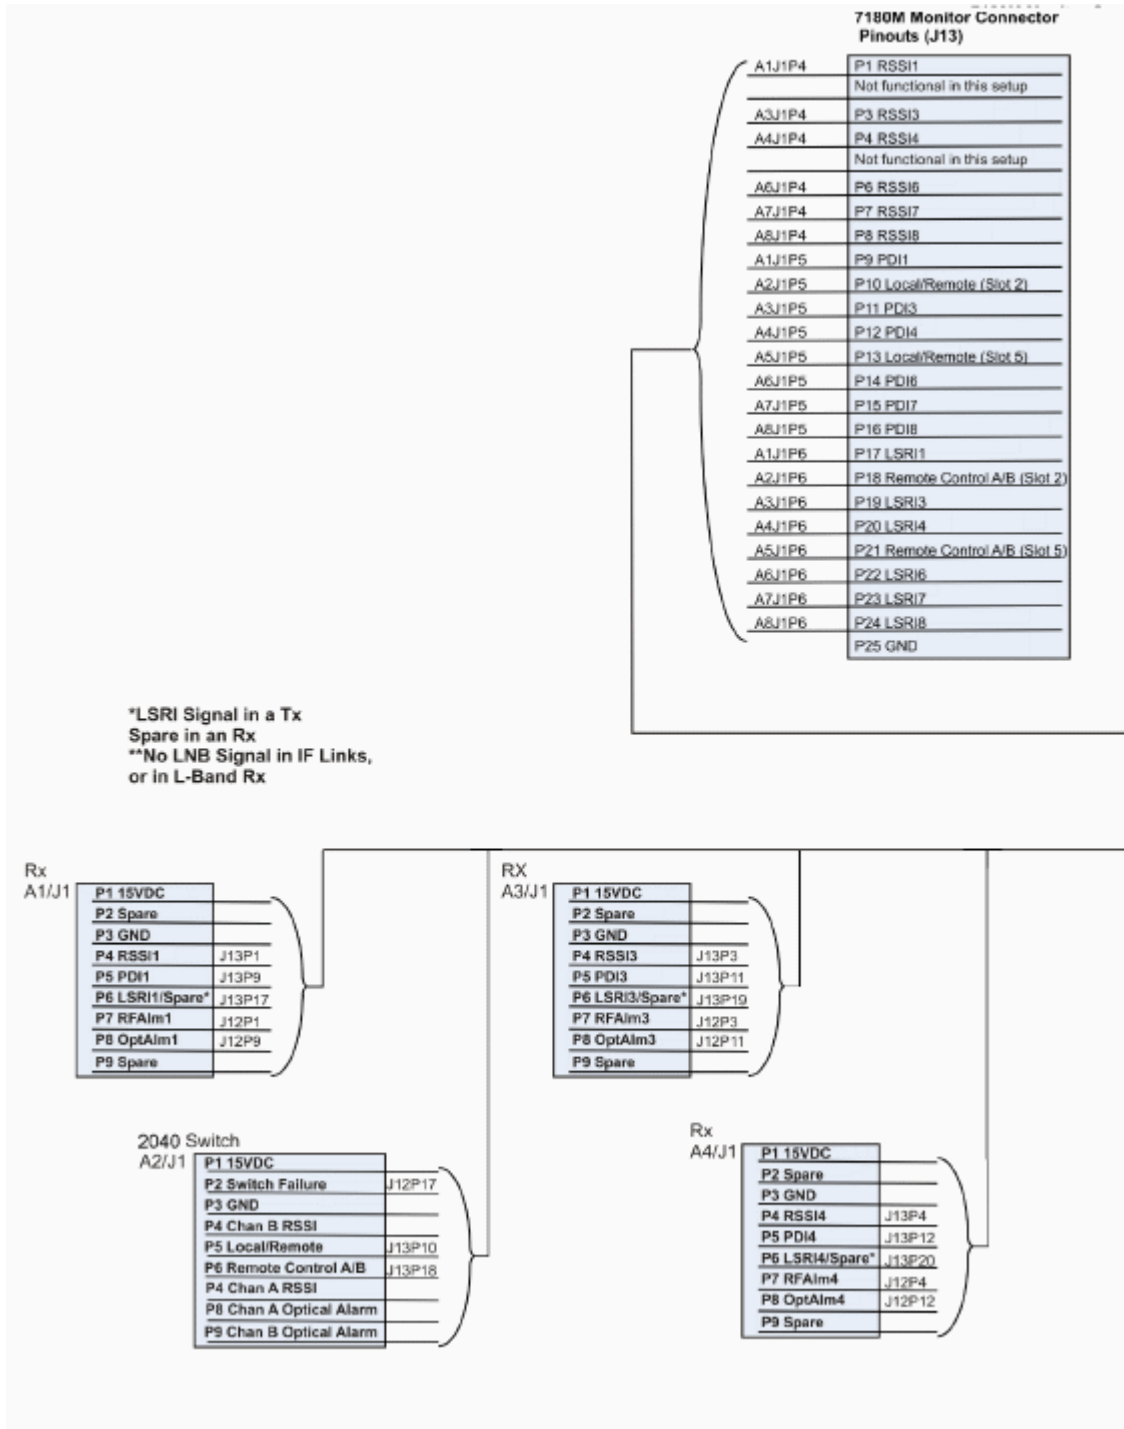

Figure 32 7180M with 2040 RF Switch Pinout
- Figure 32 7180M with 2040 RF Switch Pinout. 46